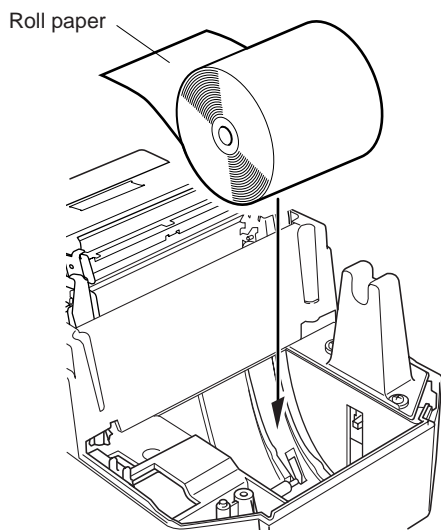

Fig. 6-13 Setting the paper
- ② Cut off the front edge of the roll paper perpendicularly.
- ③ Confirm that the power of the printer is turned on.
- ④ While observing the direction of the roll, set the paper roll into the hollow as shown in Fig. 6-13.